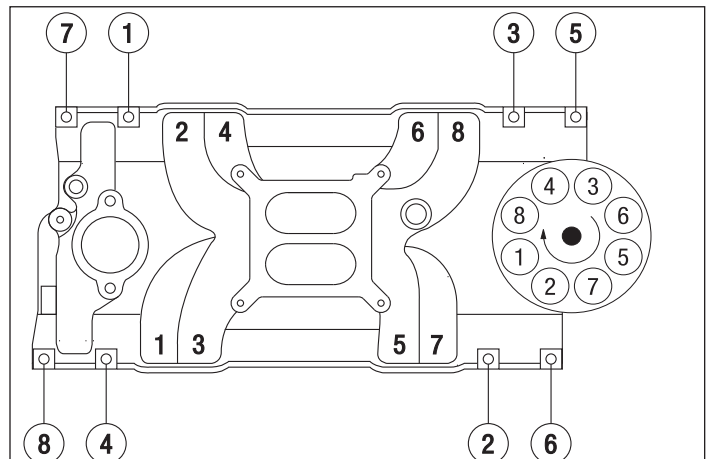

Figure 3 - Vortec/E-Tec Manifold Bolt Torque Sequence
- 5b. Install the intake manifold and hold-down bolts. On applications with Vortec cylinder heads, torque all of the manifold bolts in two steps by the sequence shown in **Figure 3** to 11 ft/lbs